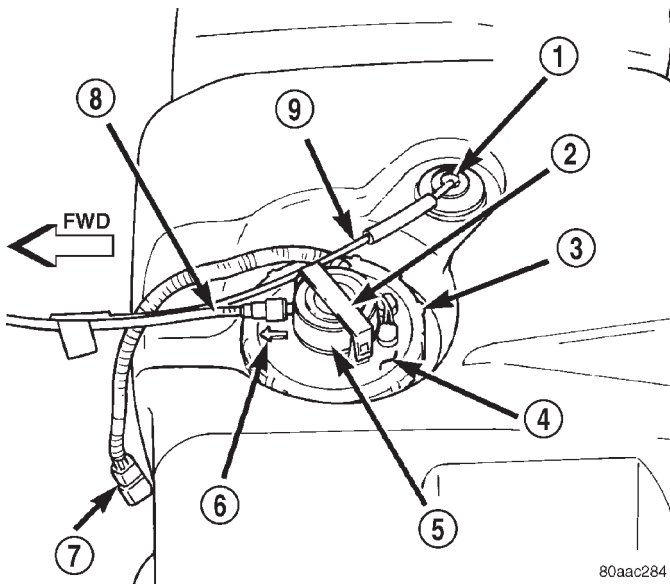
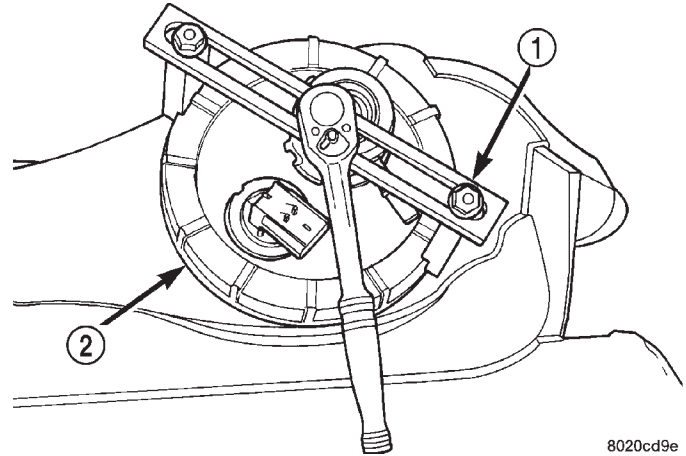

Fig. 24 Top View of Fuel Tank and Fuel Pump Module
Fig. 25 Locknut Removal/Installation—Typical
(1) Drain fuel tank and remove tank. Refer to the Fuel Tank Removal/Installation section of this group.
(2) Thoroughly wash and clean area around pump module to prevent contaminants from entering tank.
(3) Disconnect fuel line at filter/regulator. Refer to Quick-Connect Fittings in this group for procedures.
(4) The plastic fuel pump module locknut is threaded onto fuel tank (Fig. 24). Install Special Tool 6856 to fuel pump module locknut and remove locknut (Fig. 25). The fuel pump module will spring up when locknut is removed.
(5) Remove module from fuel tank.
(5) Rotate module until molded arrow (Fig. 24) is pointed toward front of vehicle (12 o'clock position). This step must be done to prevent float/float rod assembly from contacting sides of fuel tank.
(6) Install Special Tool 6856 to locknut.
(7) Tighten locknut to 74 N·m (55 ft. lbs.) torque.
(8) Rotate fuel filter/fuel pressure regulator until its fitting is pointed toward front of vehicle (12 o'clock position).
(9) Connect fuel line at filter/regulator. Refer to Quick-Connect Fittings in this group for procedures.
(10) Install fuel tank. Refer to Fuel Tank Installation in this section.